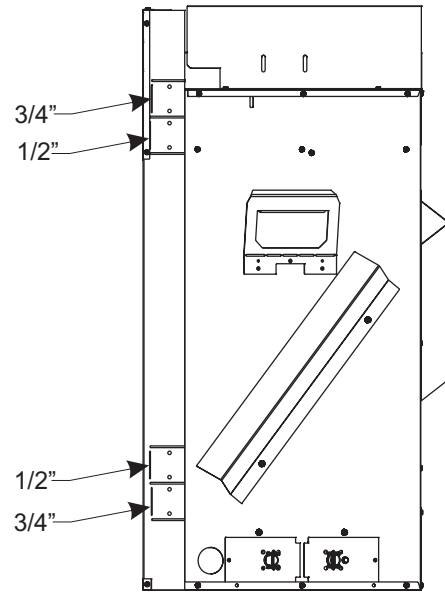

Figure 16
6. Measure from face of fireplace to face of drywall strip to determine final depth and adjust nailing flanges as shown in **Figure 16**.